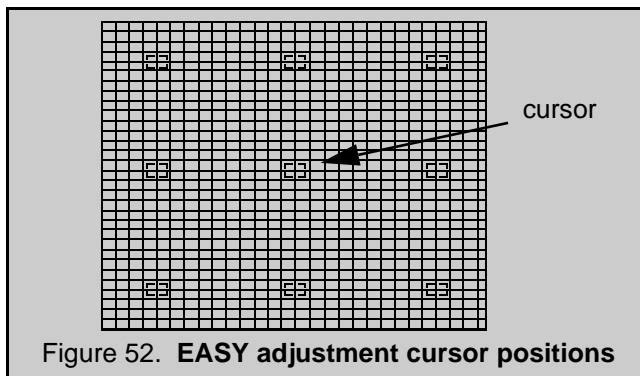

Figure 52. **EASY adjustment cursor positions**
10. To move the cursor press MUTE on the remote (cursor flashes), then move the cursor to any of the 9 positions for "EASY" mode(see figure 52)